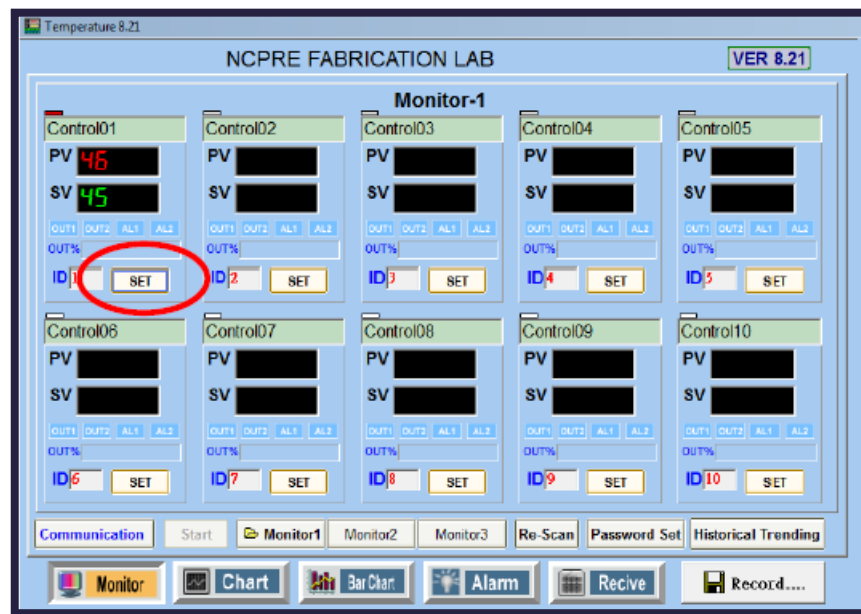

Figure. 20
9. Enter the recipe to be run in the software. Click on “SET” in Control01 (Figure. 20).